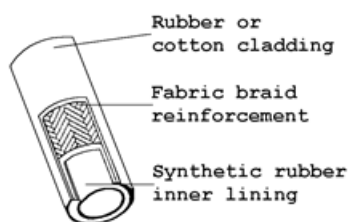

FIG 2.
- Fabric braid for low pressures. (Fig 2)